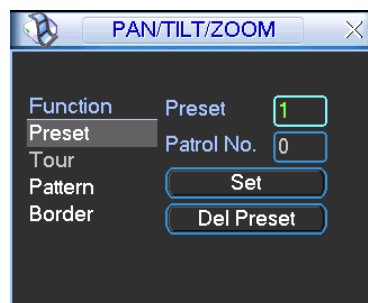
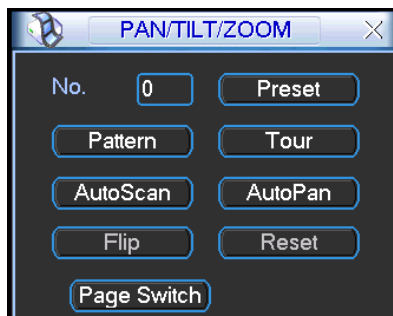

Figure 4-35
Figure 4-36
In Figure 4-32, click the “set” button. The interface is shown as below. See Figure 4-35.
In Figure 4-32, click page switch button, the interface is shown as in Figure 4-36.
- The following setups are usually operated in the Figure 4-32, Figure 4-35 and Figure 4-36 .
In Figure 4-35, click preset button and input preset number. The interface is shown as in Figure 4-37.
In Figure 4-36, please input preset number in the No. blank, and click preset button.
In Figure 4-35, click patrol button. The interface is shown as in Figure 4-38. Input preset number and add this preset to a patrol (tour). For each patrol (tour), you can input max 80 presets.
In Figure 4-35, input patrol (tour) number in the No. blank and click patrol button
In Figure 4-35, click pattern button and then click “begin” button. The interface is shown as in Figure 4-39. Then you can go to Figure 4-32 to modify zoom, focus, and iris.
In Figure 4-36, input mode value in the No. blank, and click pattern button.
In Figure 4-35, click border button. The interface is shown as in Figure 4-30.
In Figure 4-36, click “Auto Scan” button, the system begins auto scan. Correspondingly, the auto scan button becomes Stop button. Click stop button to terminate scan operation.
In Figure 4-36, click page switch button, you can see an interface is shown as below. See Figure 4-41. Here you can set auxiliary function. The aux value has relationship with the Aux button of the decoder.